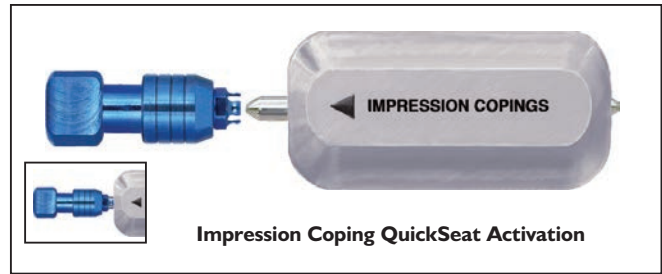

Figure 2
- **Impression Copings:** Insert the impression coping onto the pin, fingers first and slide inward until the fingers meet the tool (Figure 2).